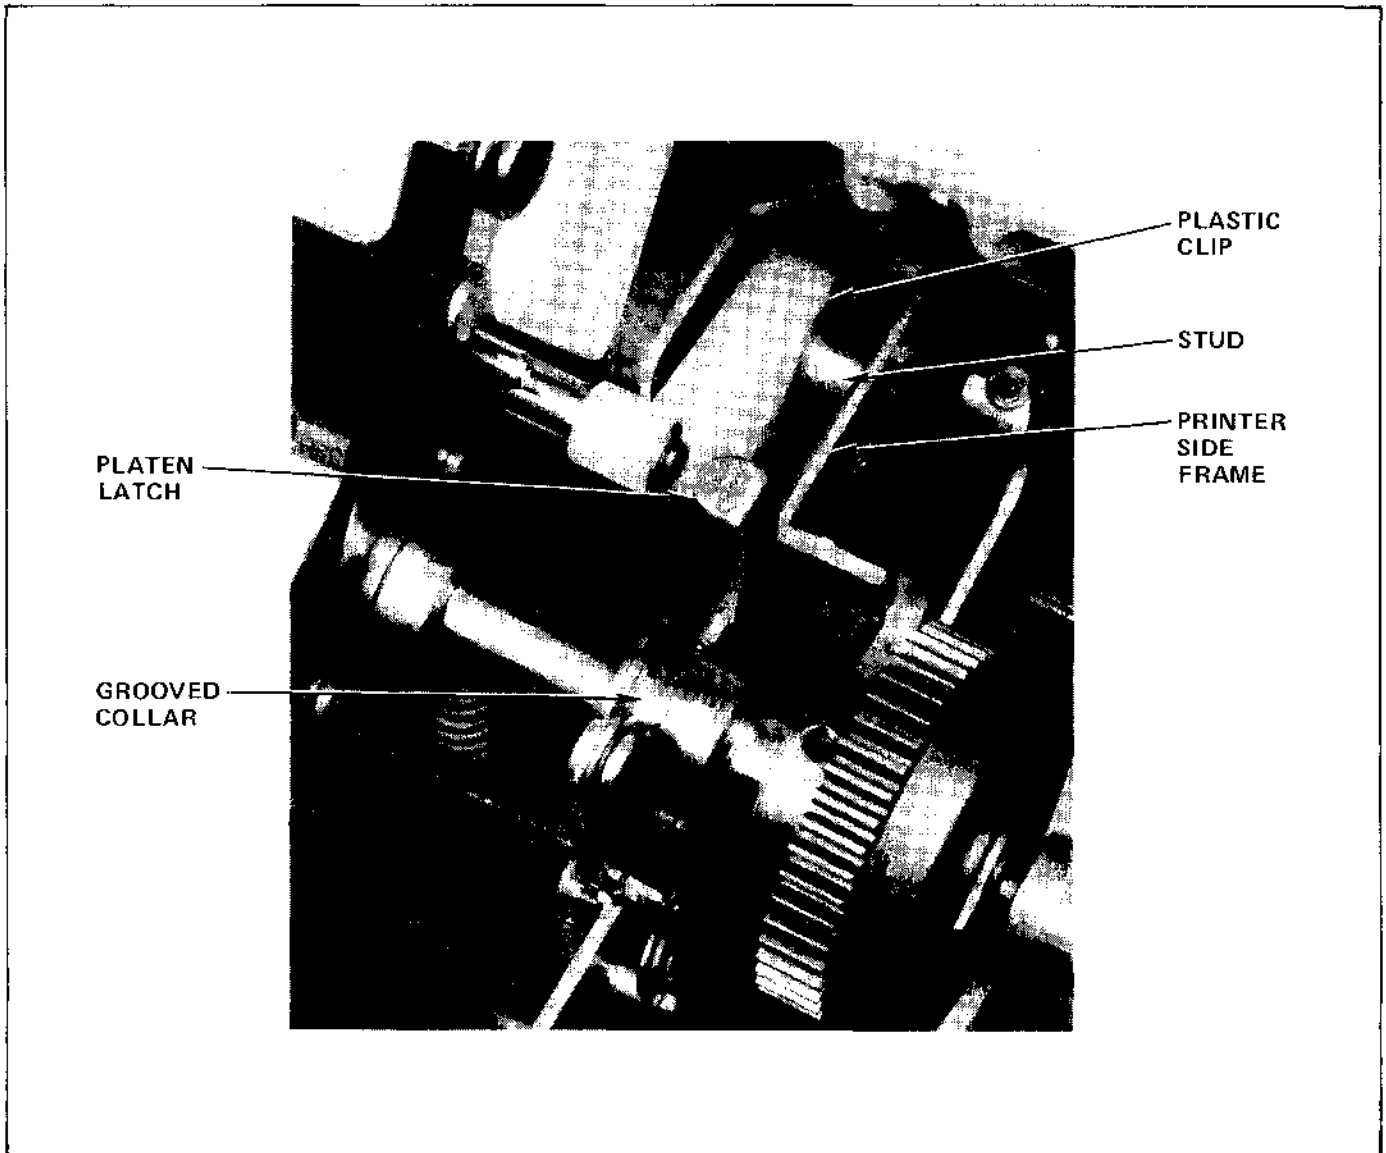

Figure 2-11. Plastic Clip and Stud
To replace the skirt, install the rear portion first, fitting the smaller of the two rear projections between the two bosses on the inside of the top cover (visible in Figure 2-11). Lower the front of the skirt, guiding its two lower projections to the inside of the terminal top cover. When the skirt is positioned properly, the front will easily snap down into place.
- (4) Refer to Figure 2-11. Lower the platen into place, while guiding the plastic clips into the areas behind
- (5) Refer to Figure 2-11. Push the plastic clips over the stud until they snap around the stud. Press down on the platen latches and push the platen into the locked position.
- (6) Rotate the platen in both directions to make sure that it is held firmly into place by the platen latches.
- (7) Replace the platen skirts and access cover. See 2.3.1.2 for paper loading.
the platen, so that the platen grooved collars rest on the platen latches and the plastic clips rest against the stud shown in Figure 2-11.